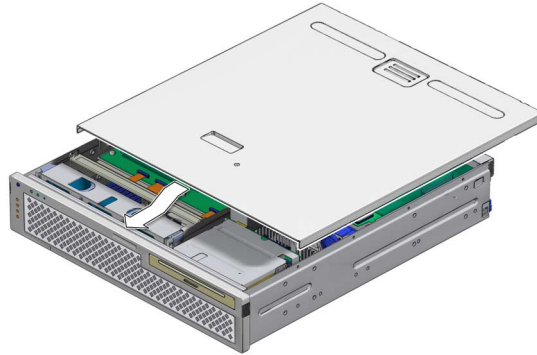

FIGURE 3-86 Installing Top Cover
2. Slide the cover forward until it latches into place (FIGURE 3-86).